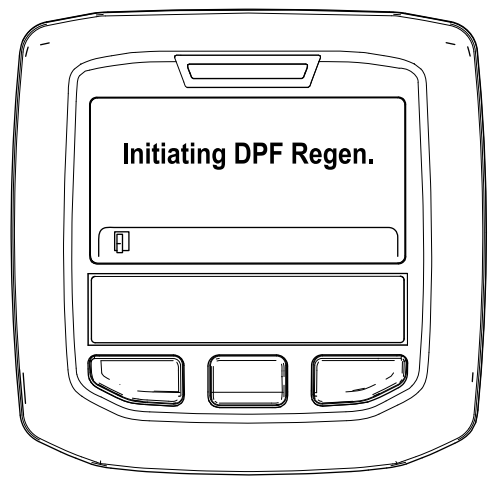

Figure 31
- A. The "Initiating DPF Regen." message displays (Figure 31).